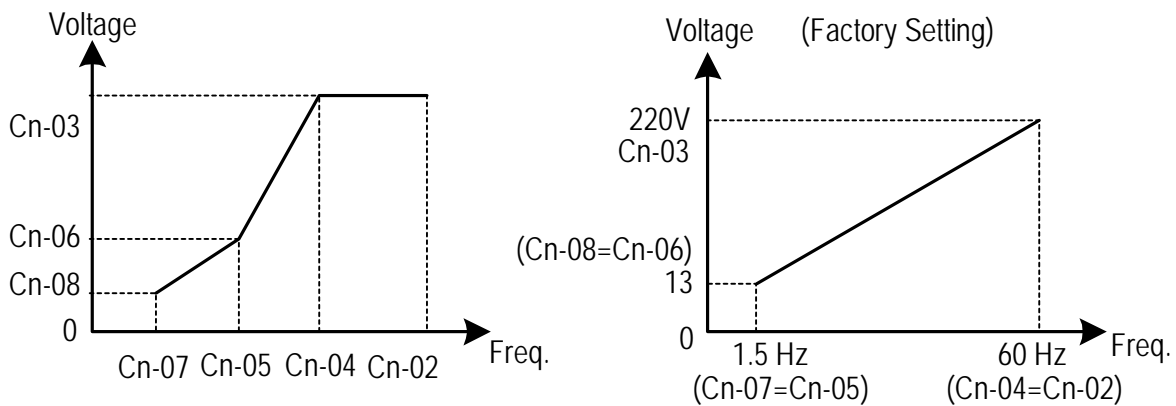

Fig. 16 User-defined V/F curve
(1) Input Voltage Setting (Cn-01)
(2) V/F Curve Parameter Settings (Cn-02 ~ Cn-08)
- Setting Cn-02 ~ Cn-08 can be set by the user when Sn-02 has been set to “15”. The user-defined V/F curve can be specified through the settings of Cn-02 ~ Cn-08 as shown in Fig. 16. The factory setting is straight line for the V/F curve. (Cn-05=Cn-07, Cn-06 is not used) as shown below (220V/60Hz case).